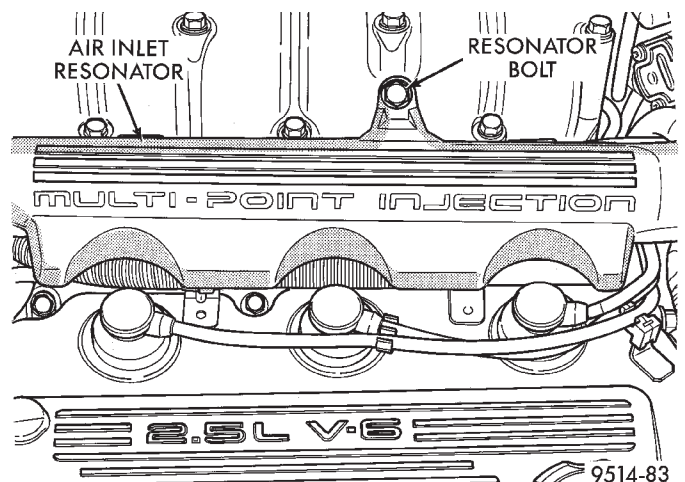

Fig. 34 Air Inlet Resonator
(4) Remove bolt holding air inlet resonator to intake plenum (Fig. 34).